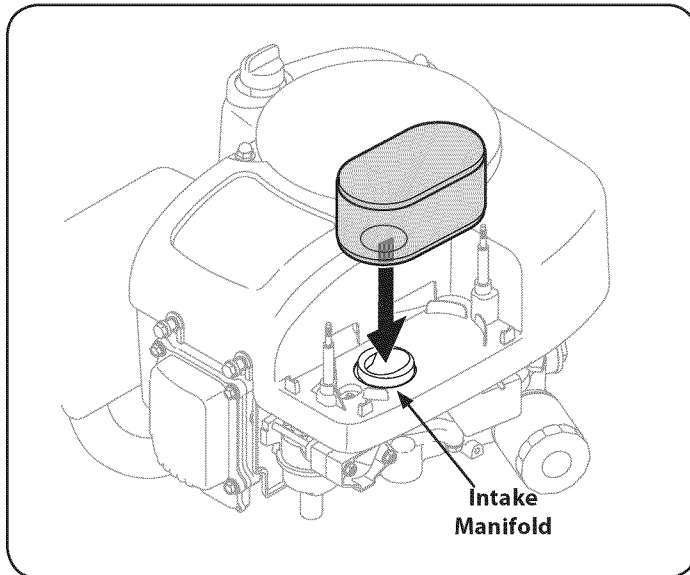

Figure 26
- Attach the new air filter with foam element, aligning the hole in the air filter with the intake manifold. See Fig. 26.